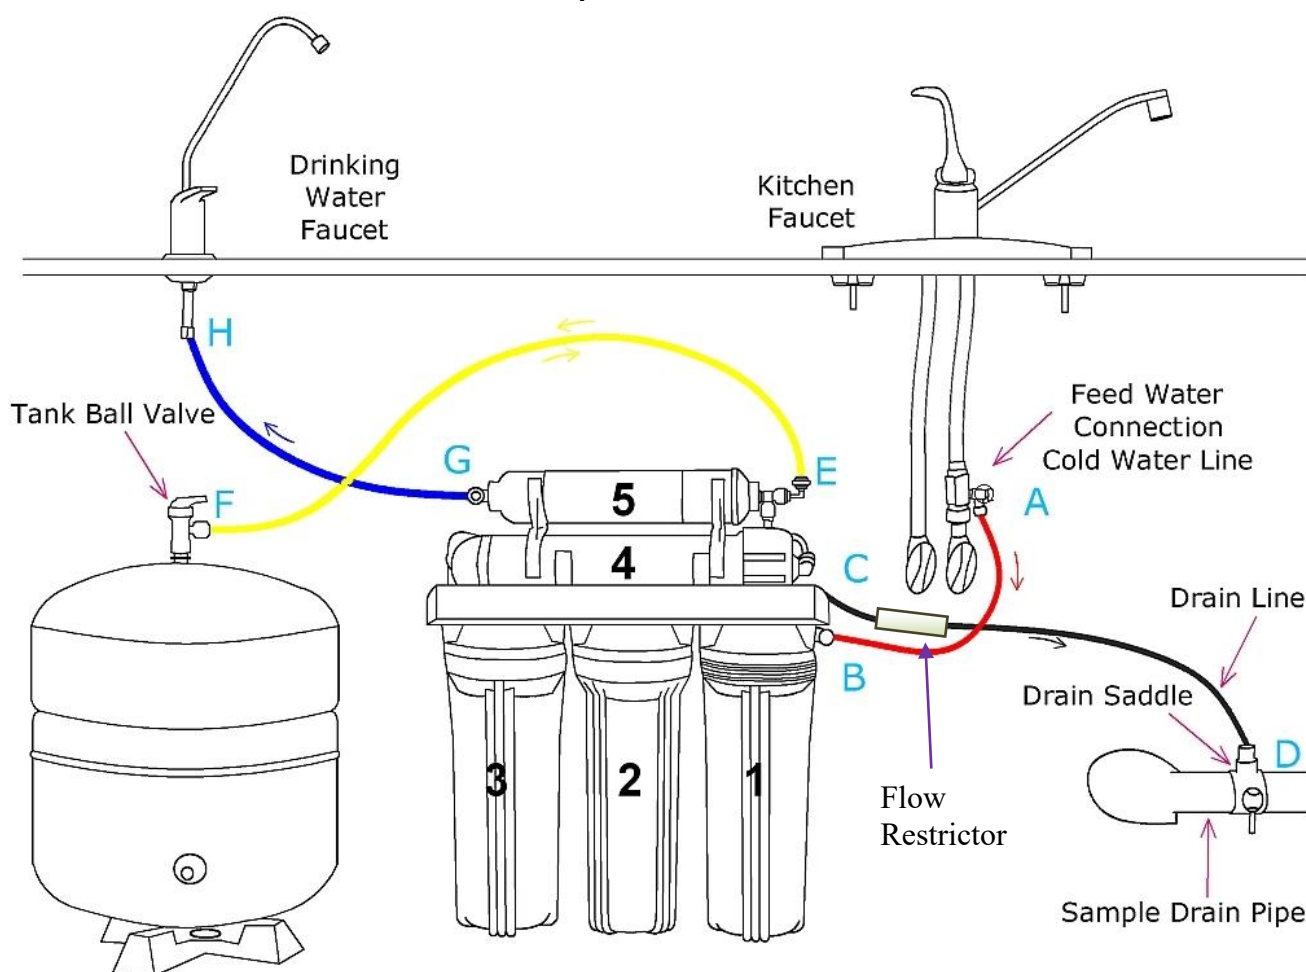

Figure 5
- 1.1 See Figure 5. Turn off the Cold Water Line via the Cold Water Supply Valve (CWSV) under the sink. Open the kitchen faucet to release any pressure and make sure the water has stopped before proceeding to the next step. Get a towel or bucket to catch any water drips. Disconnect the Kitchen Faucet Connector (KFC) pipe from the CWSV.
Step 7: Tubing Hook Up (see figure 5 above to see letters not shown below)